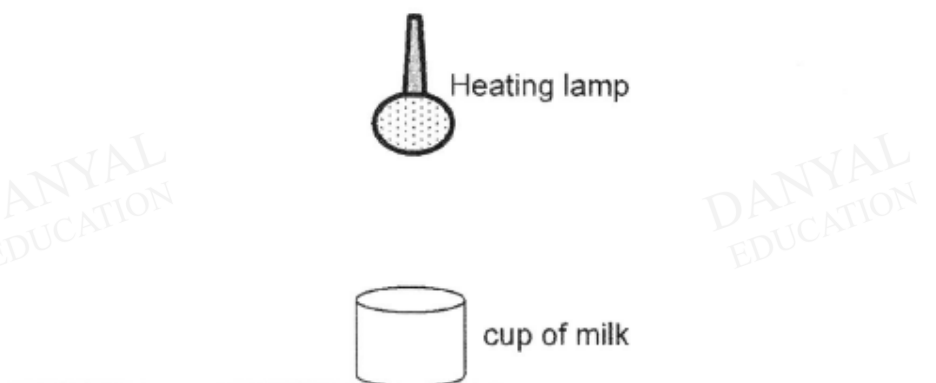

Fig. 11.2
- (d) A person suggested to use a 10.0 kW heating lamp to heat up a cup of milk as shown in Fig. 11.2. However, he found that this process of heating up 250 g of milk in the 150 g of glass container from 20 °C to 40 °C is only 5.0 % efficient.